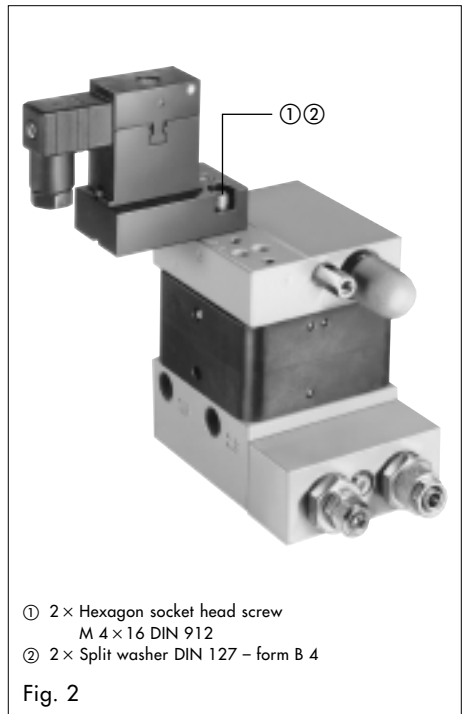

Fig. 2
Devices with adapter plate without diaphragm switch are attached to the booster valve with two hexagon socket head screws ① and two split washers ② (see Fig. 2). Be sure to check that the two O-rings or seals at the CNOMO interface of the booster valve are positioned correctly.